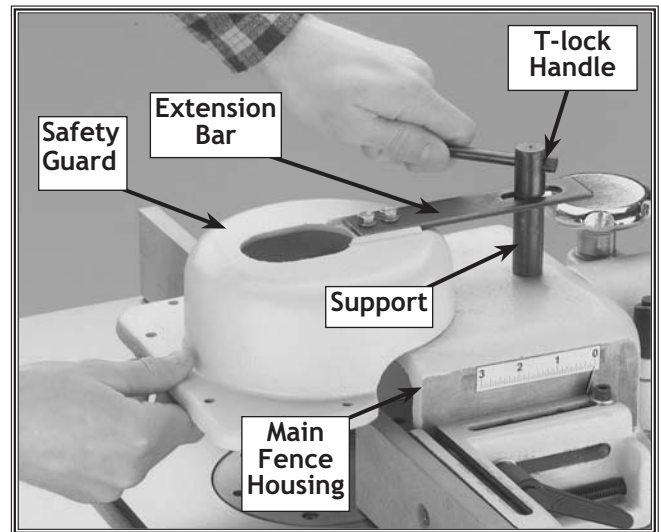

Figure 13. Threading lock handle onto the guard assembly.
2. Thread the support into the main fence housing. See **Figure 13**.
3. Position the extension bar and safety guard on the main fence housing and install the T-lock handle. See **Figure 13**.